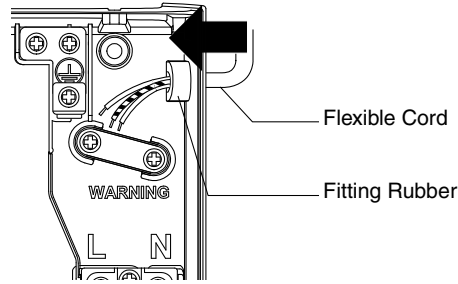

Figure 3
- ① Please fix the appliance based on the dimension below:
- ② Make 4 holes for Wall Hook at the wall by means of a drill. Drive the Wall Plug into each hole.
- ③ Insert the Flexible Cord to the appliance through **Figure 3** as shown below: